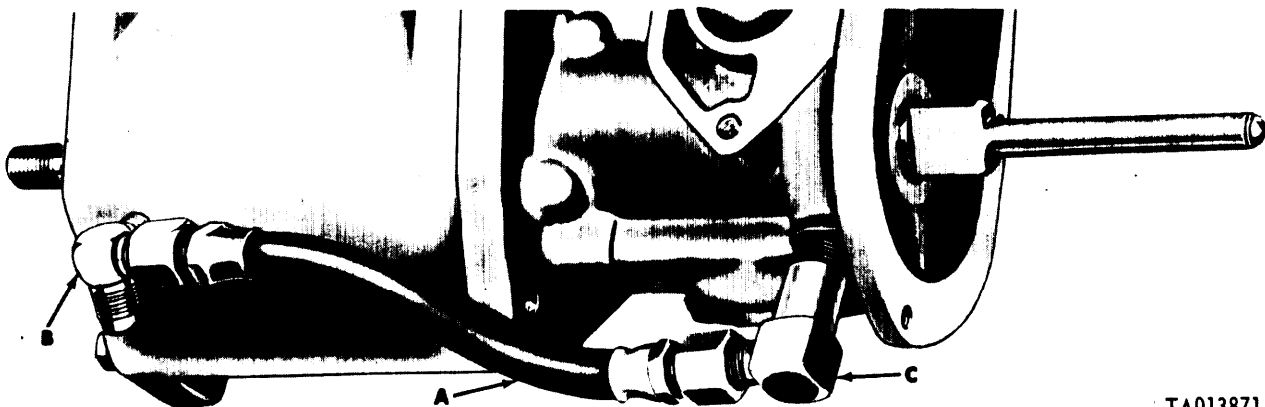

Figure 3-136. Installing oil distribution hose assembly and fittings.
(2) Refer to figure 3-136. Install pipe-to-tube elbow (C), pipe-to-tube tee (B), and oil distribution hose assembly (A).